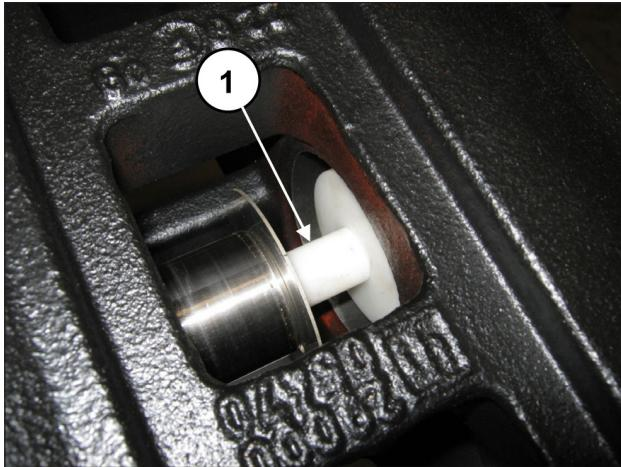

Fig. 171
Turning the shaft, have the piston guide move forward so that the buffer, moving ahead, can expel the seal support and the entire piston unit (pos. ①, Fig. 171).